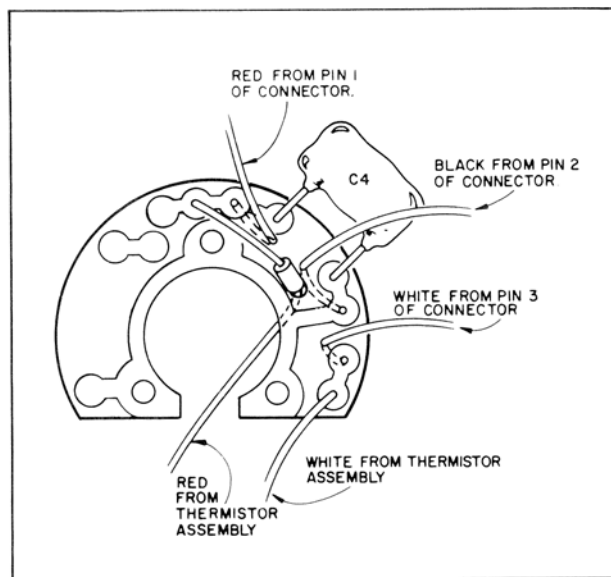
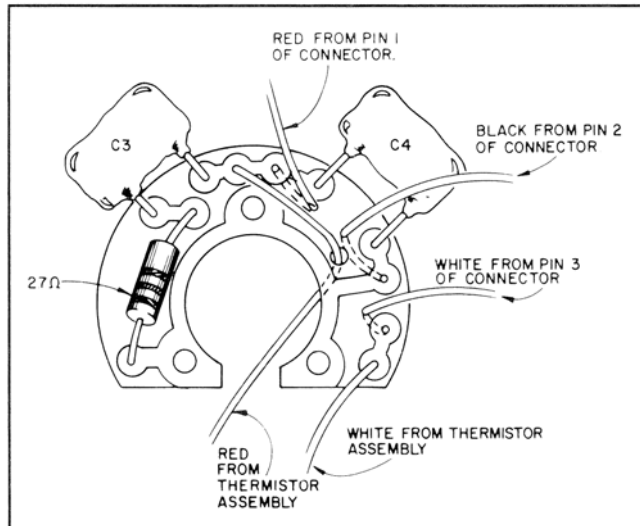

Figure 4-5 Keysight Model 478A Printed Circuit Assy Wiring
Figure A-9 Keysight Model 478A Printed Circuit Assembly Wiring (P/O Change B)
- 1 Remove three 2-56 x 3/16 screws holding terminal shield (Figure 4-5). Move terminal shield aside.
- 1 Referring to Figure 4-5, connect the three wires from receptacle connector to printed circuit assembly.
- 3 Pass the red wire from the thermistor assembly through the hole indicated in Figure 4-5. Do not connect to printed circuit assembly at this time.
Replace Figure 4-5, "Keysight Model 478A Printed Circuit Assy Wiring," on page 42 with Figure A-9.